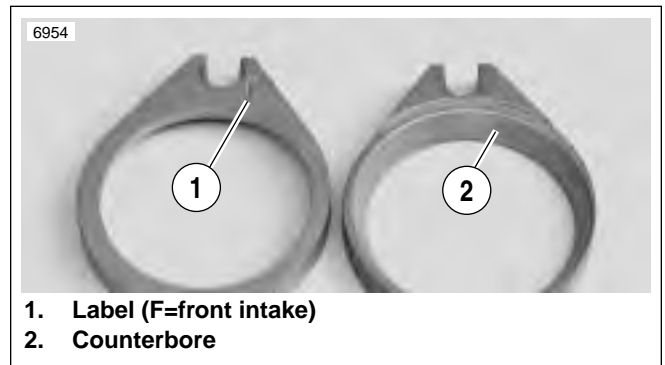

Figure 4-110. Intake Flanges
1. See Figure 4-110. Install front and rear intake flanges onto throttle body with the counterbore facing out. Each intake flange is labeled and the pieces are not interchangeable.